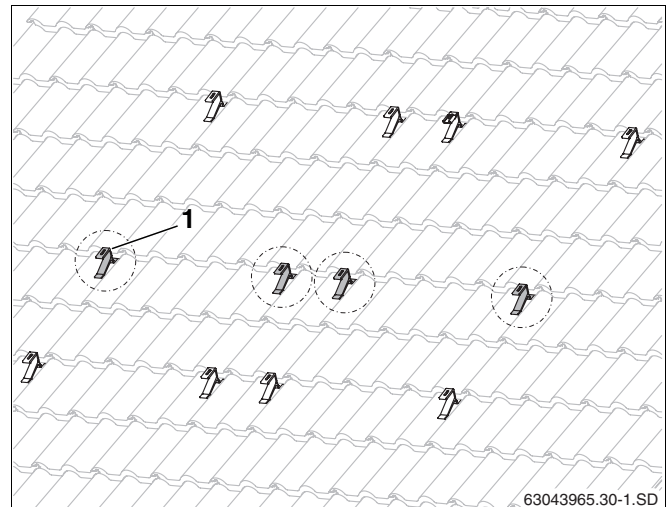

Fig. 28 Additional roof hooks for the snow load profile (here: for two collectors)
- ▶ Fasten additional roof hooks (Fig. 28, **Item 1**) as centrally as possible between the upper and lower roof hooks already fitted.